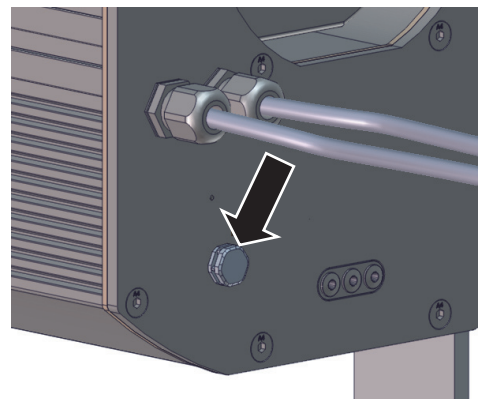

Figure 3. Anti-humidity valve
9. See Figure 3. Check the grey plastic anti-humidity valve (arrowed) on the rear cover near the cable entry. Replace if not in perfect condition. Tighten replacement valves to a torque of 0.8 Nm.